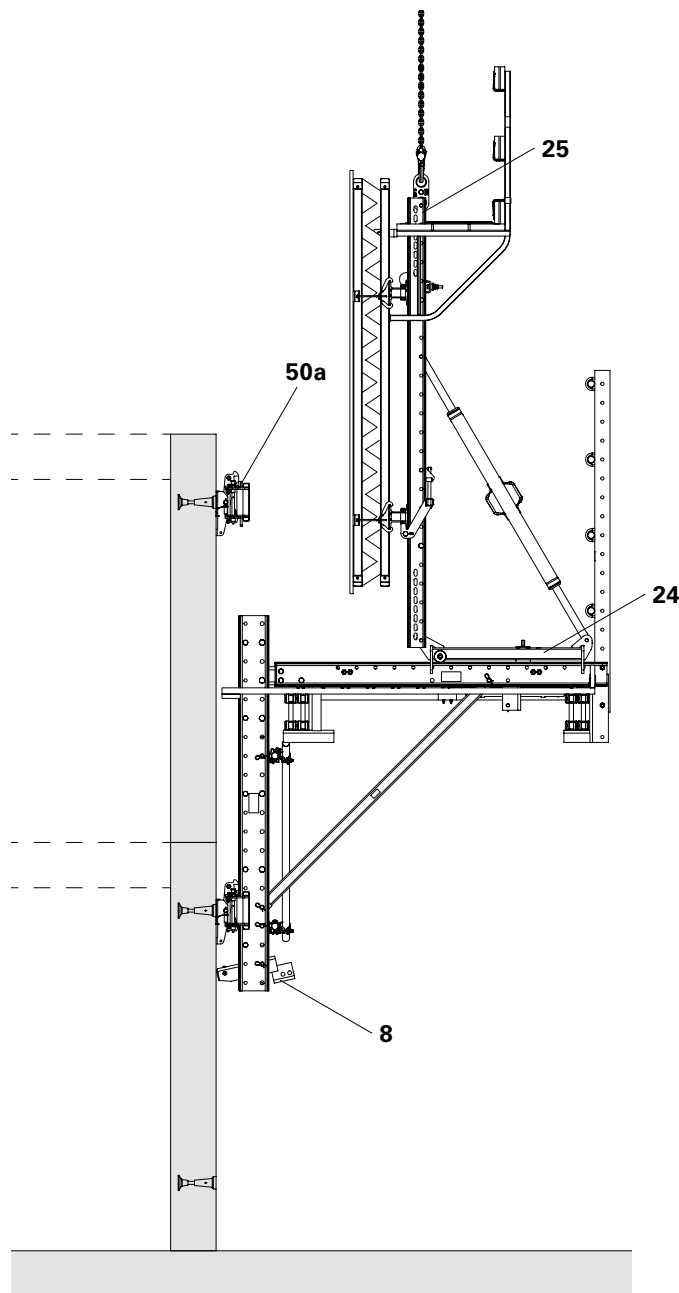

Fig. C3.10
3. Retract Carriage (24).
5. Attach crane lifting gear to top end of the Strongback (25).
- Climbing Rail Hinge (8) swivels around the bottom Climbing Shoe in the pressure position.
9. From a safe position, detach the crane lifting gear. (Fig. C3.10)